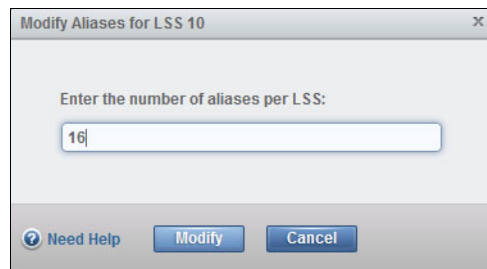

Figure 11-102 Modify 16 aliases for LSS 10
3. In the Modify Aliases for LSS xx (where xx = 00 - FE) dialog box, enter the number of aliases for the LSS. For example, enter 16 aliases for LSS 10, as shown in Figure 11-102.